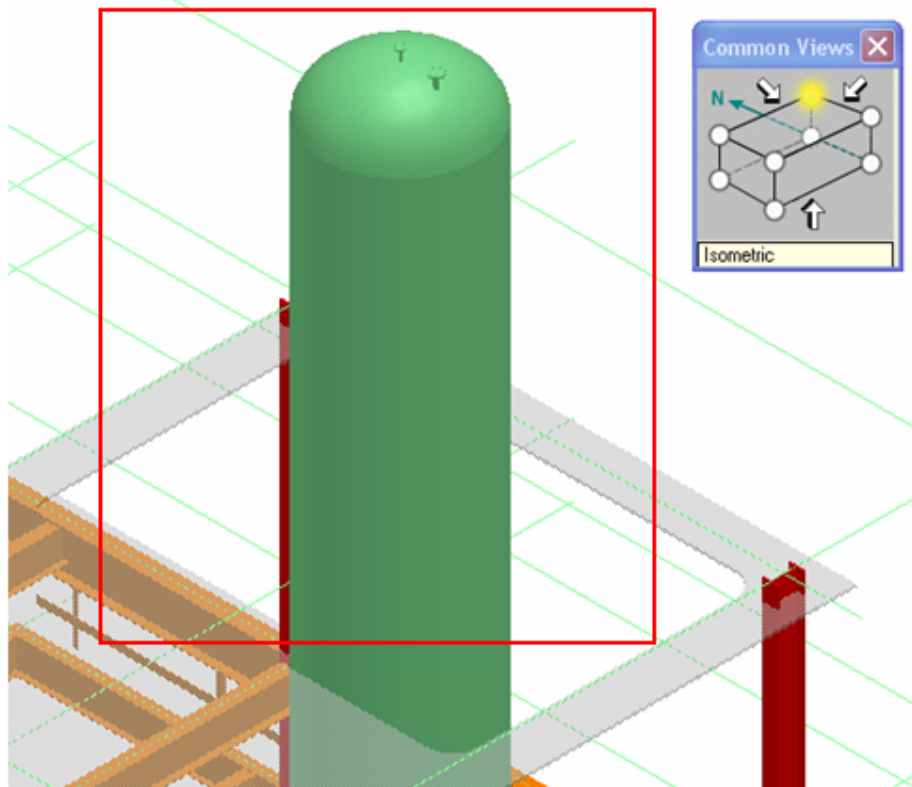

Figure 17: Looking Isometric View
3. Change the view to **Isometric** view and magnify the area highlighted in Figure 17 by clicking the **Fit** and **Zoom Area** buttons on the **Common** toolbar. Choose an area that just includes the vertical vessel.